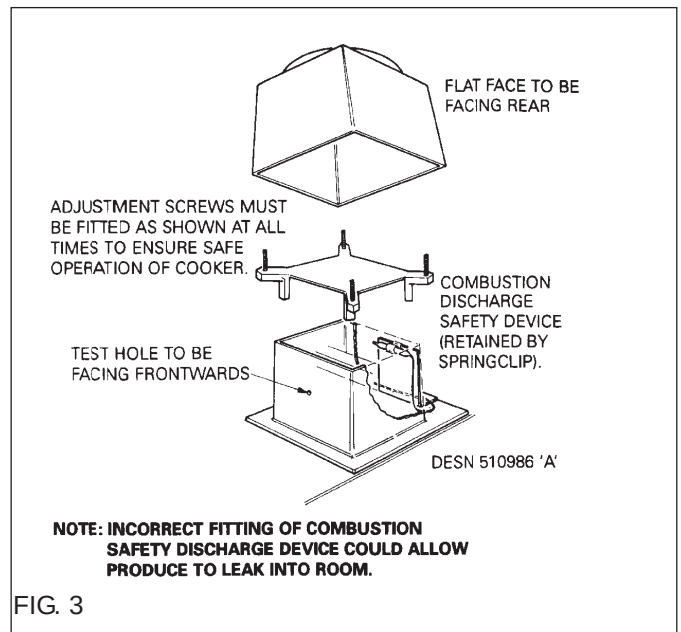

FIG. 3
1. Draught Diverter Assembly - See Fig. 3.
2. Assemble and locate the flue draught diverter assembly on the top plate. See Fig. 3.